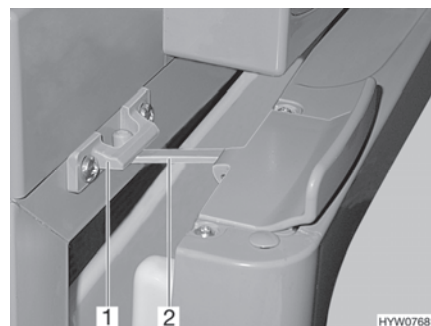

Fig. 130 Refrigerator door in ventilation position (Thetford)
- Open the lock (Fig. 130,2) and snap it into the locking catch (Fig. 130,1). The refrigerator door will then stay slightly open.